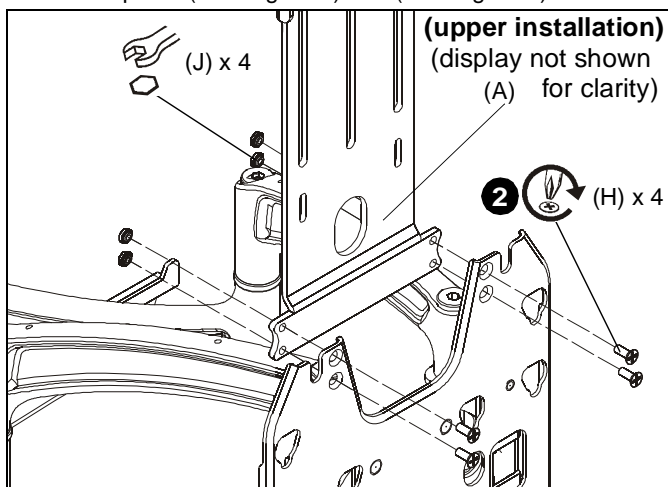
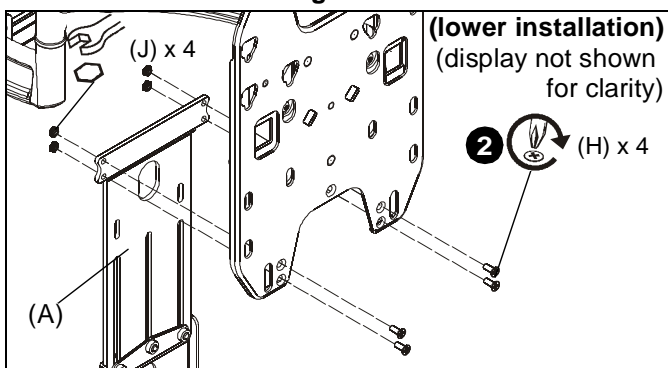

Figure 5
Figure 6
2. Use four #10-24 x 1/2" Phillips head cap screws (H) and four #10-24 lock nuts (J) to connect attachment bracket (A) to faceplate. (See Figure 5) and (See Figure 6)